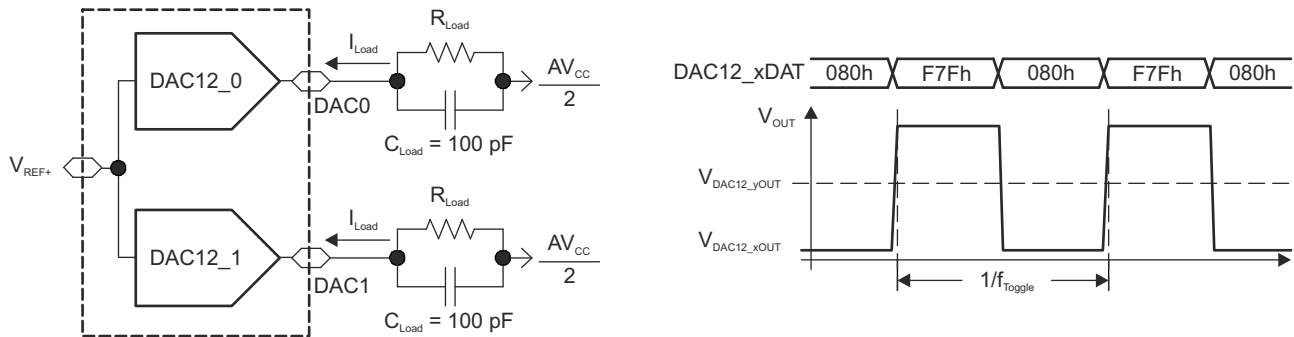

图 8-22. Crosstalk Test Conditions
| Channel-to-channelcrosstalk (1) (see 图 8-22)  | DAC12_0DAT = 800h, No load,DAC12_1DAT = 80h ↔ F7Fh, $R_{Load} = 3\text{ k}\Omega$ ,$f_{DAC12\_1OUT} = 10\text{ kHz}$ at 50/50 duty cycle | 2.2 V, 3 V |     | - 80 |     | dB   |